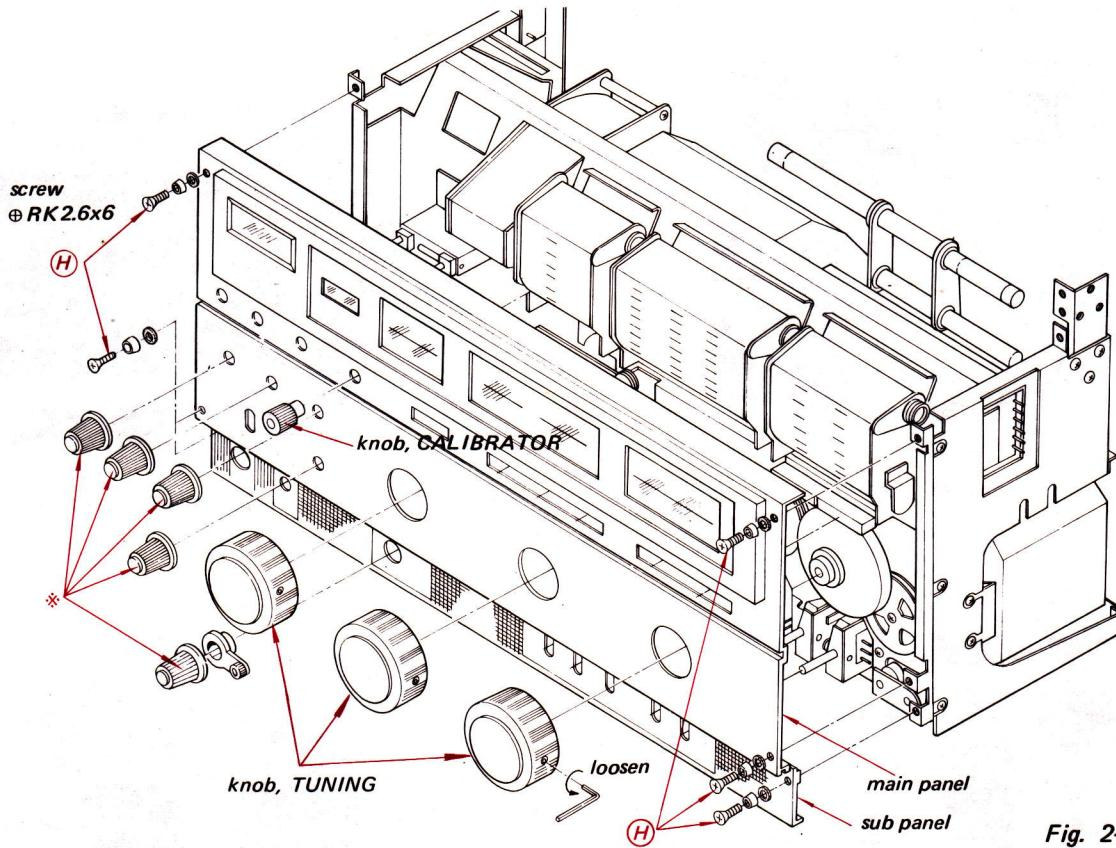

Fig. 2-2
2. Pull out the five control knobs marked \* in Fig. 2-2.
3. Remove the six screws marked (H) and remove the main panel and the sub-panel.